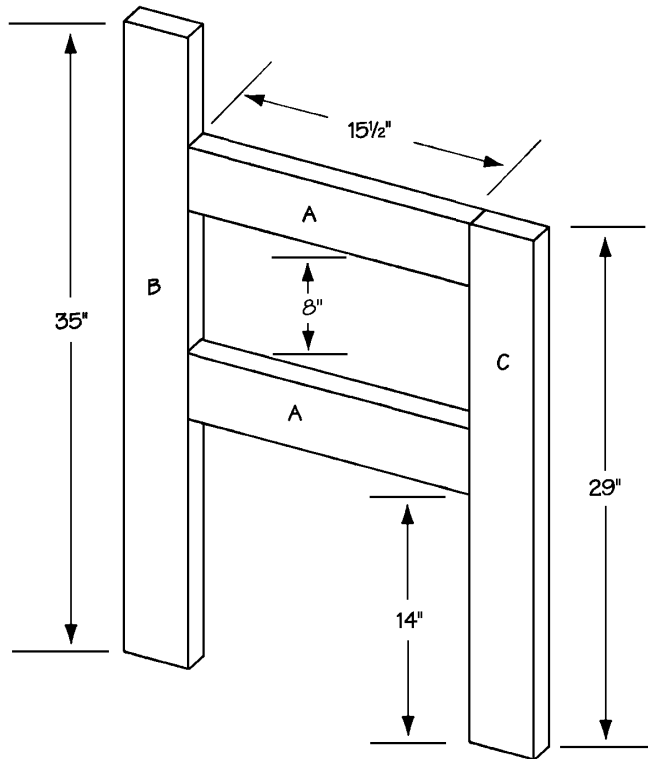

Figure 1
1. Cut four horizontal sides (A) from 2 x 4 pine, each measuring 15-1/2 inches.
2. Cut two long vertical sides (B) from 2 x 4 pine, each measuring 35 inches.
3. Cut two short vertical sides (C) from 2 x 4 pine, each measuring 29 inches.
4. Place two horizontal sides (A) parallel to each other, and between one long vertical side (B) and one short vertical side (C), as shown in *Figure 1*. The top horizontal side (A) is exactly even with the end of the short vertical side (C) and the bottom horizontal side (A), and is 14 inches from the other end of that same vertical side (C), as shown in *Figure 1*. Toenail through the edges of the horizontal sides (A) into both the long and short vertical sides (B and C) using two 3-1/2" screws on each joint.